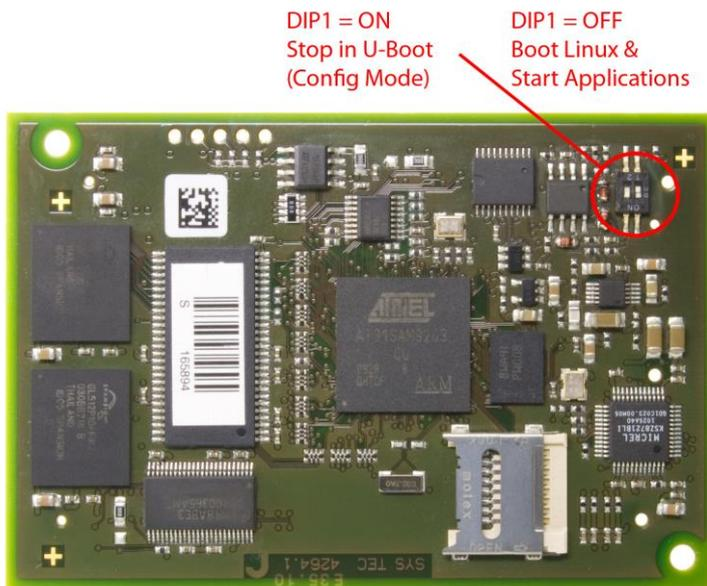

Figure 5: Positioning and meaning of DIP-Switch 1 on the ECUcore-9263
- (1) **DIP1 = "On" or /BOOT = "Low"** DIP1: see Figure 5, /BOOT: see Manual L-1261, Development Board: "/BOOT" = pushbutton S602
Figure 5 shows the positioning and meaning of DIP-Switch 1 on the ECUcore-9263. This DIP-Switch might be hard to access if the module is built in. Thus, the Portpin of the processor that is connected to the switch is available as connection "/BOOT" on the pin connector of the ECUcore-9263 (see Hardware Manual ECUcore-9263, Manual no.: L-1261).